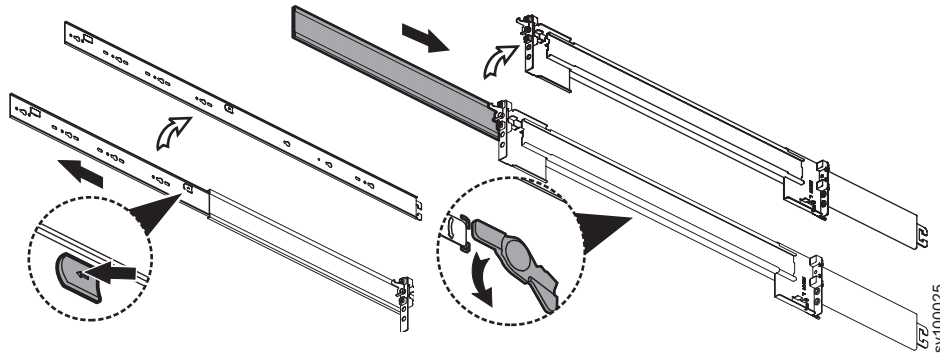

Figure 41. Detaching the inner rail section
3. Detach the inner section of one 3-part rail, as shown in Figure 41 on page 59.